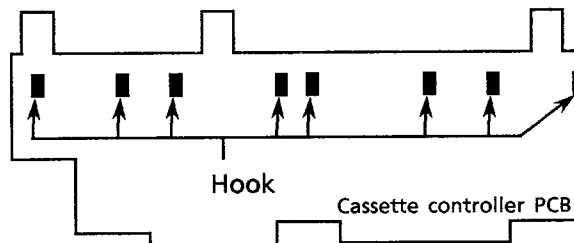

Fig 10
2. Release the 8 hooks to remove the controller PCB (Fig 10).